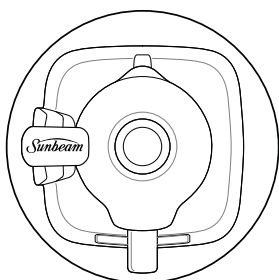
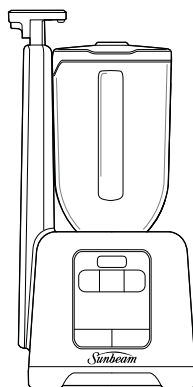

Figure 4a
Figure 4b
5. Turn the blending Jug clockwise until the vacuum ports (Figure 4a) align (Figure 4b).